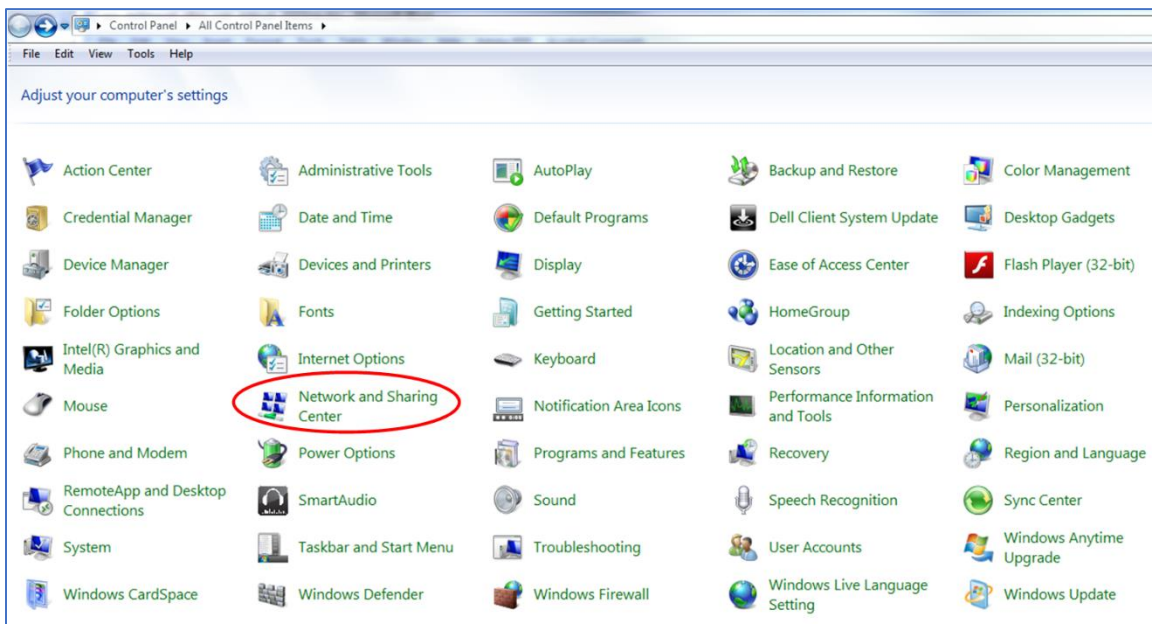

Figure 241: Control Panel - Network and Sharing Center
2. When the Control Panel screen displays, click on the Network and Sharing Center selection (Figure 241). In some versions of the Windows operating system, there is an additional folder layer such as Control Panel \ All Control Panel Items \ Network and Sharing Center.